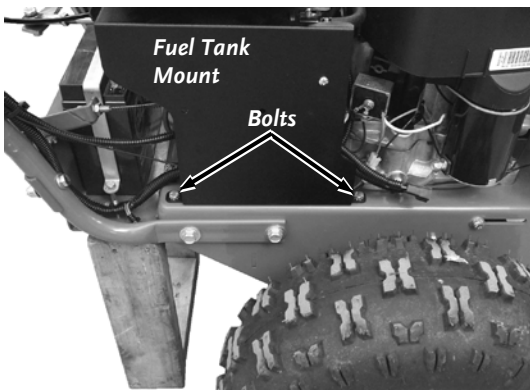

Figure 39
3. Remove the Bolts from the Right side of the Fuel Tank Mount with a 7/16" Wrench (**Figure 39**).